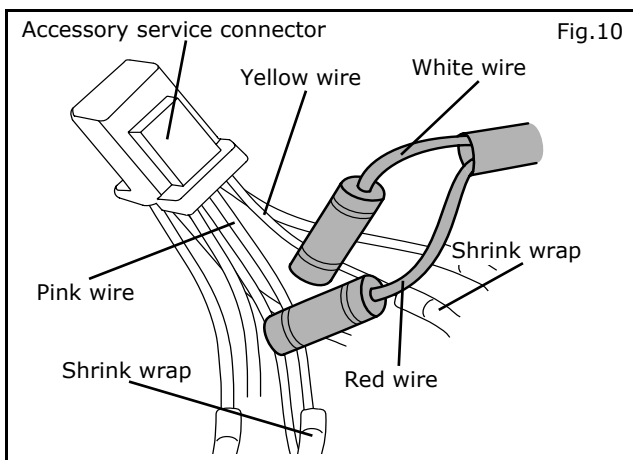

Fig.10
4) Using a Posi-Tap (I), connect the White wire from Wire harness (D) to the Yellow wire on the Accessory Service Connector as shown in Fig.10.
5) Using a Posi-Tap (I), connect the Red wire from Wire harness (D) to the Pink wire on the Accessory Service Connector as shown in Fig.10.